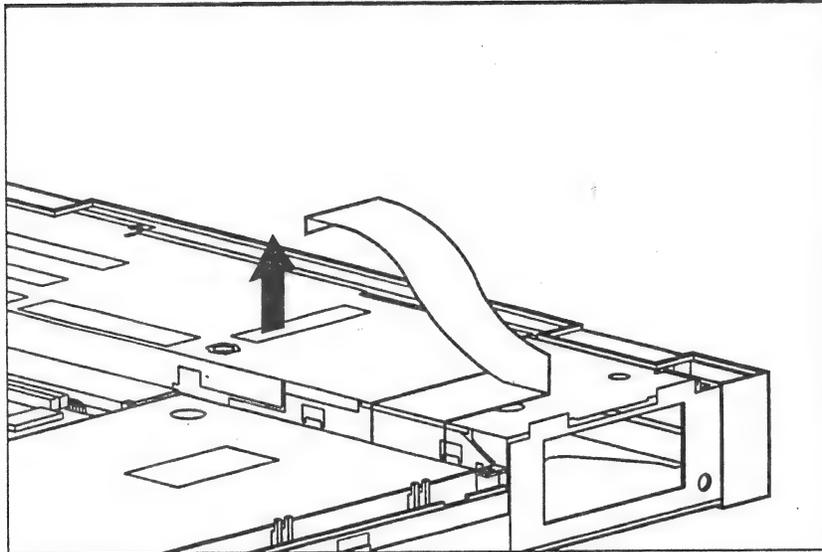

Figure 2-46. Removing the Diskette Drive Cable and ZIF Connector
2. Disconnect the diskette drive cable from the ZIF connector located on top of the system module (Figure 2-46).